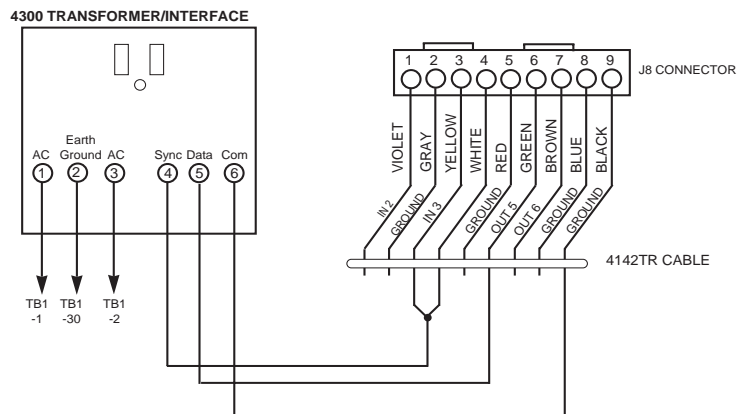

Figure 6: 4300 Transformer Connections
1. Connect terminals 1 and 3 (AC) and terminal 2 (Ground) of the 4300 transformer interface to control panel terminals 1, 2, and 30, respectively.
2. Run a 6-conductor cable between the 4300 and the panel. Splice this cable to a 4142TR cable as shown in *Figure 6*. Note that the white and yellow wires of the 4142TR **must be spliced** together.